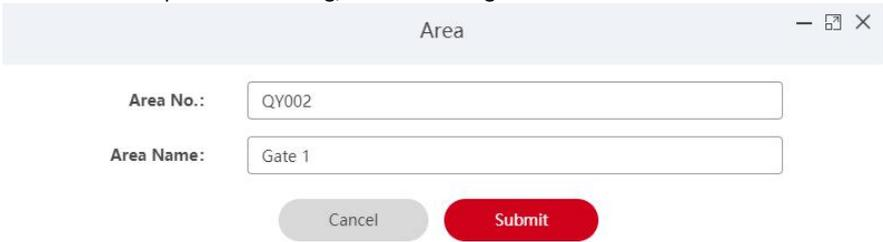

Figure 5-64
Step 2: Click "" of the area you want to edit, enter information about the area, click "Submit" to complete area editing, as shown in Figure 5-64 below.